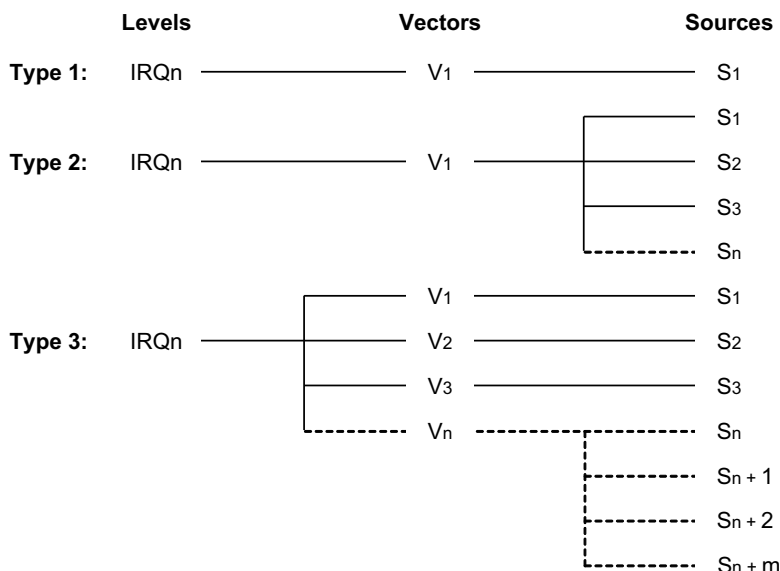

Figure 38. S3F8 Series Interrupt Types
In the S3F80P5 microcontroller, all three interrupt types are implemented, as indicated in Figure 38.
► **Note:** In Figure 38, the number of S_n and V_n values is expandable.